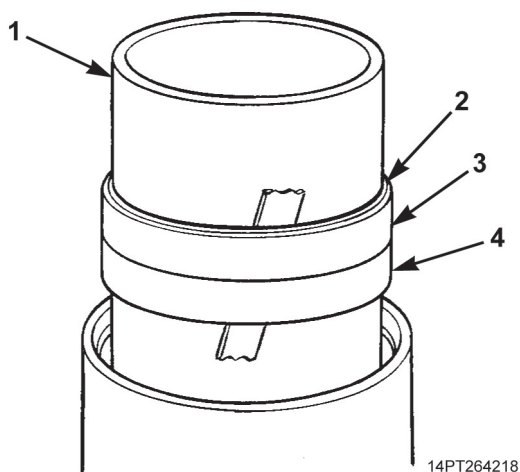

Figure 14. Wiper, Wiper Retainer, and Seal Removal.
20. Extend sleeve (Figure 14, Item 1) to expose wiper retainer (Figure 14, Item 3) and seal (Figure 14, Item 4). Remove wiper retainer and seal from sleeve. Remove wiper (Figure 14, Item 2) from wiper retainer. Discard wiper, wiper retainer, and seal. Remove tape from sleeve, if used.